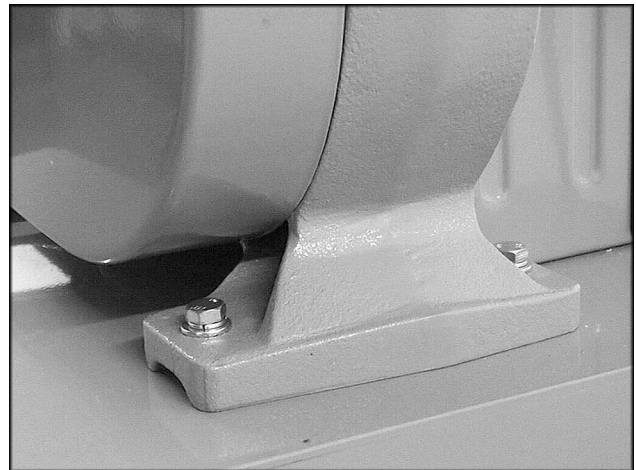

Fig. 2
- Line up holes in the saw body with holes in the top of the stand. Fasten saw body to the stand with four M8 x 40 hex cap screws, eight M8 washers, four M8 lock washers, and four M8 hex nuts (Fig. 2)